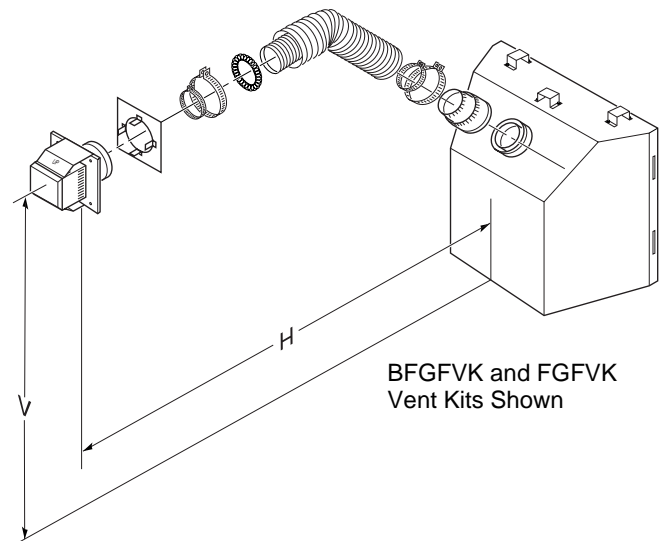

**Figure 18 - Horizontal Termination Configuration for Rigid Venting Using One 90° Elbow**
See information in Figure 18 for Vertical(V) and Horizontal(H) maximums and minimums. The same amounts apply for flexible venting.